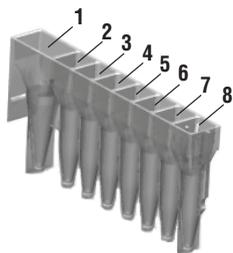

Figure 1. Maxwell® 16 LEV Cartridge (MCG).
1. Place the number of cartridges to be used into the Maxwell® 16 LEV Cartridge Rack (Cat. # AS1251). Place each cartridge into the rack with the tube holder (Figure 1) facing towards the numbered side of the rack. Hold the cartridge firmly and remove the seal.